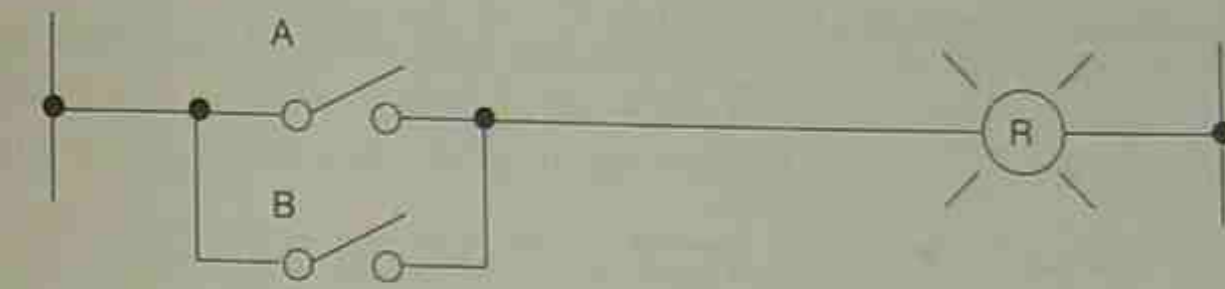

Figure 7-7 Two Switches Wired in Parallel
8. Devices that perform a *START* function are normally wired in parallel. Figure 7-7 shows two switches (A and B) wired in parallel to control a red indicator lamp. In this configuration, if either switch A or B is closed, the red lamp will light.
From the truth table, we see that if either input A or B are TRUE, or set to 1, the output will be turned ON, or set to 1. The OR gate functions like the two switches that were wired in parallel to a lamp in Figure 7-7. If either switch A or B was closed, the lamp would light. Figure 7-16 shows OR logic for two input devices wired in parallel to an output device.